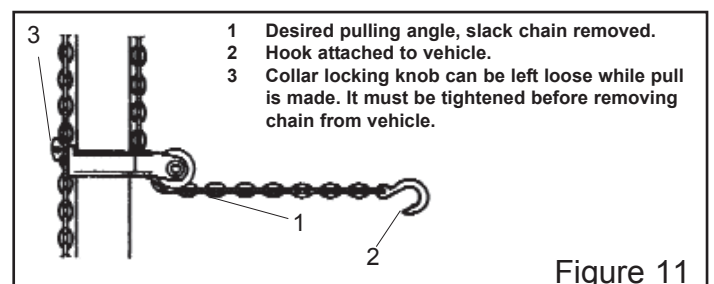

Figure 11
7. Let tower chain hang free momentarily to remove twist. Then without twisting chain, attach hook to the vehicle. Pull on tail end of chain to remove slack, Figure 11. and then lower collar.